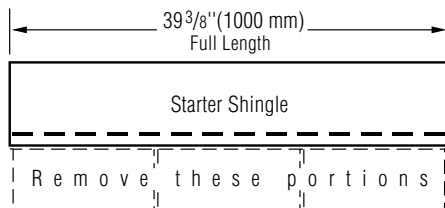

Figure 12-13: Make starter shingles by removing the lower tabs.
1. Use CertainTeed Starter™ (10" x 38³/₄") or a starter course consisting of the shingles from which the lower tabs have been removed (*Figure 12-13*). Remember, the sealant on starter courses should lay as close as possible to the eaves edge of the roof.
3. Continue with full-length starter-course shingles along the eaves. (*Figure 12-13*).
1. Use CertainTeed Starter™ (10" x $38\frac{3}{4}$ ") or a starter course consisting of the shingles from which the lower tabs have been removed (Figure 12-13). Remember, the sealant on starter courses should lay as close as possible to the eaves edge of the roof.